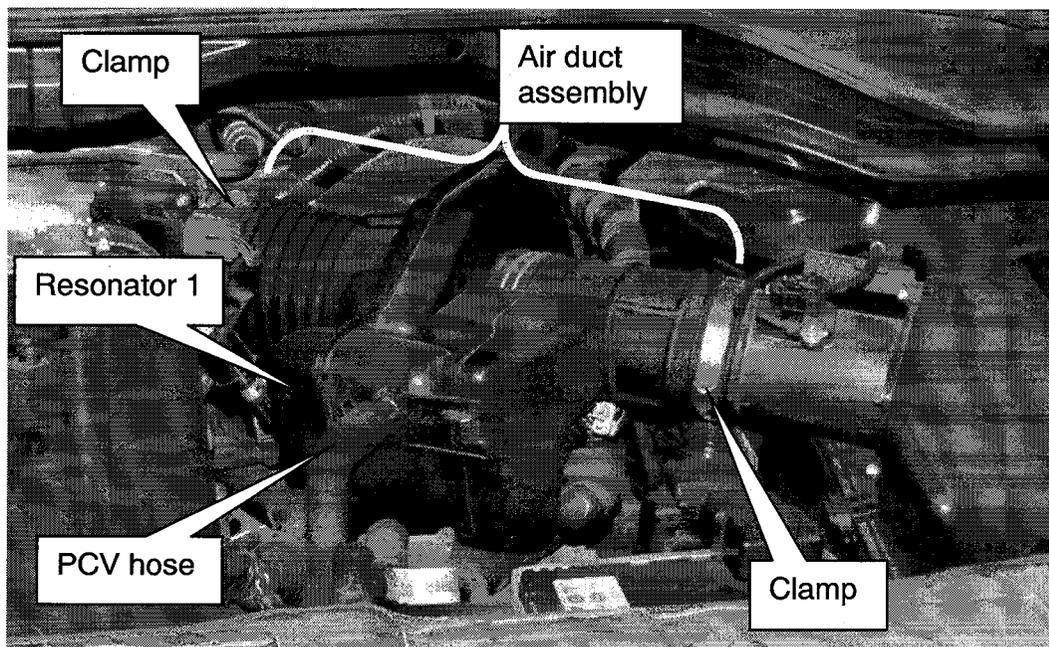

Figure 1
2. Loosen the clamps shown in Figure 1 (clamps at both ends of the air duct assembly).